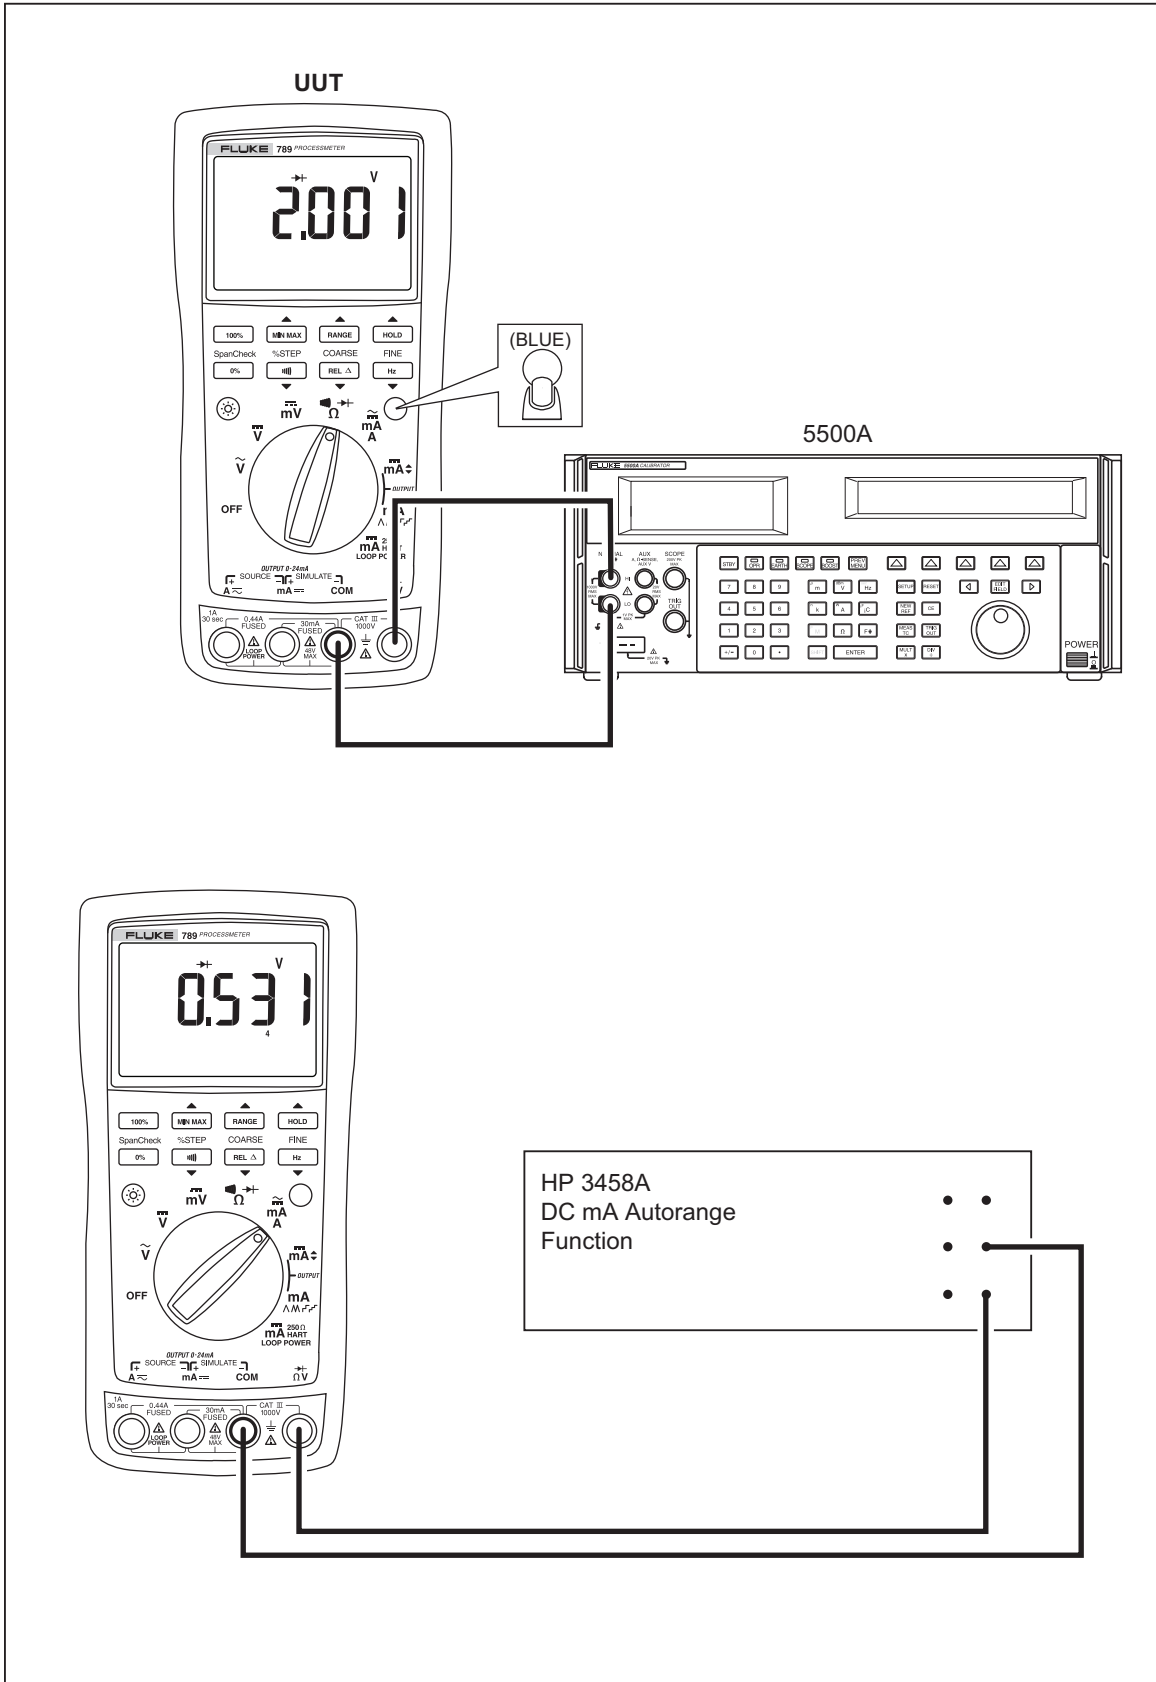

Figure 5. Diode Test Connections
4. Connect the calibrator to the **COM** and  $\Omega \rightarrow +$  terminals on the UUT as shown in Figure 5.